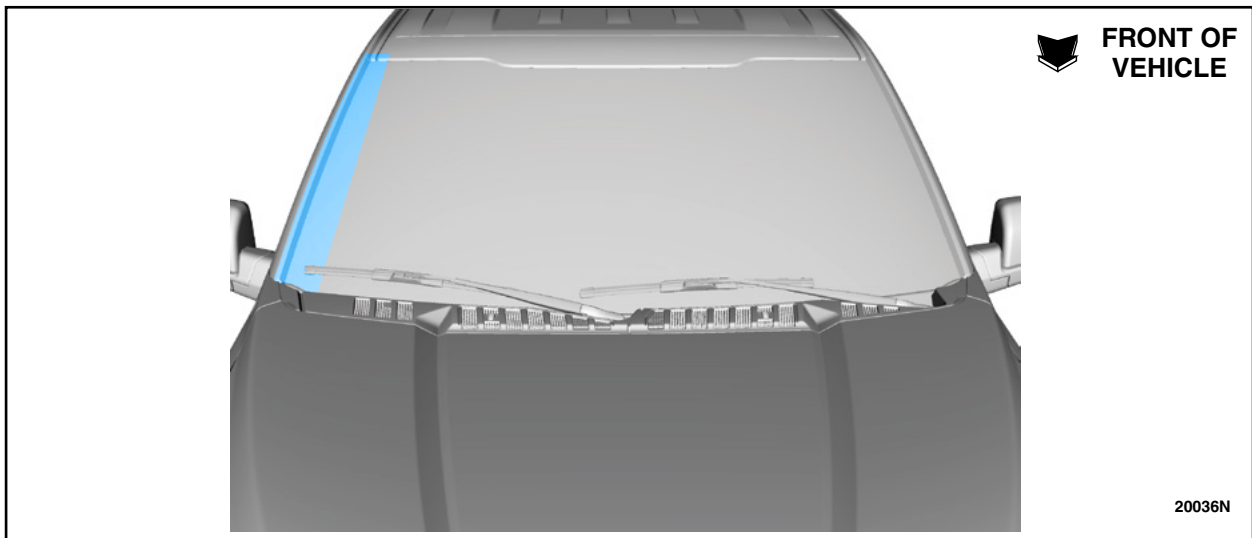

FIGURE 14
26. Using a garden hose, spray down the RH side of the windshield, then immediately inspect the A-pillar area within the vehicle for signs of moisture and/or leakage. See Figure 14.